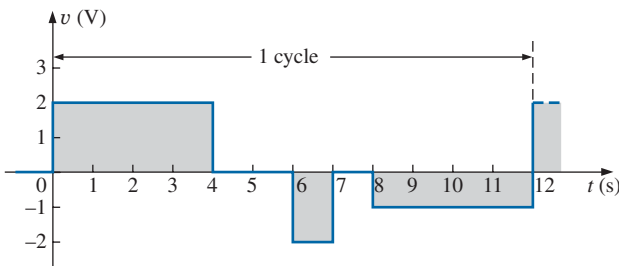

FIG. 13.106
51. Find the rms value of the periodic waveform in Fig. 13.106 over one full cycle.